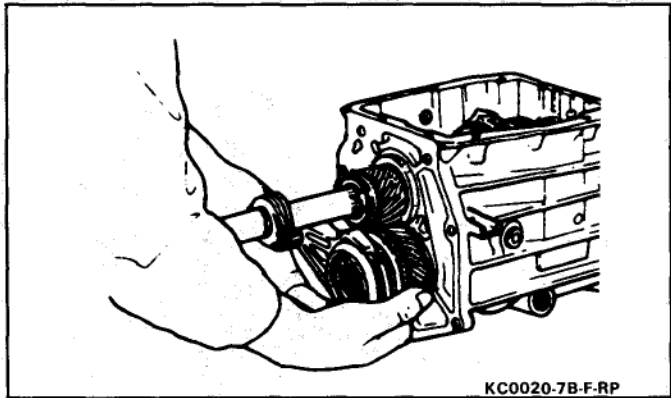

Figure 11 Fifth Gear Synchronizer
13. Fifth gear, synchronizer, shift fork and shift rail as an assembly. If necessary, rotate rail to disengage from reverse lever assembly (Figure 11).